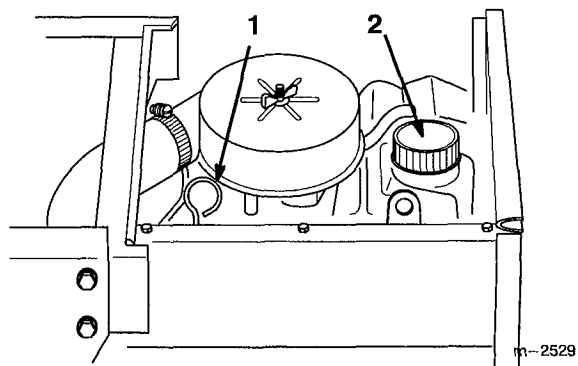

Figure 6
2. Remove dipstick and wipe it with a clean rag. Push dipstick down into dipstick tube and make sure it is fully seated. Pull dipstick out and check level of oil (Fig. 6).
4. Remove filler cap (Fig. 6) and pour oil into filler neck until level is at FULL mark on dipstick.